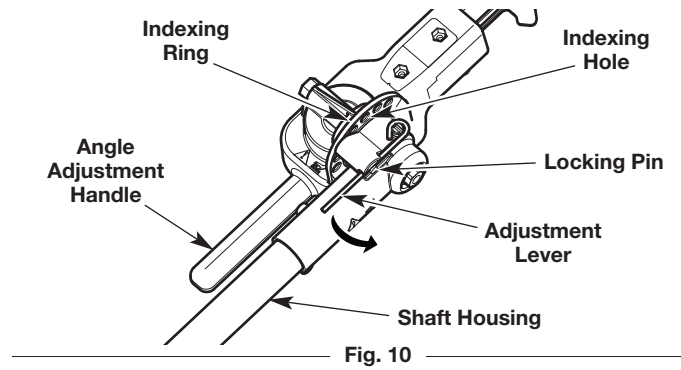

Fig. 10
1. Hold the angle adjustment handle (Fig. 10) with the left hand. Hold the shaft housing (Fig. 10) with the right hand.
2. With the right thumb, push the adjustment lever (Fig. 10) away from the indexing ring to unseat the locking pin (Fig. 10).
4. Align the locking pin with the desired indexing hole in the indexing ring (Fig. 10).